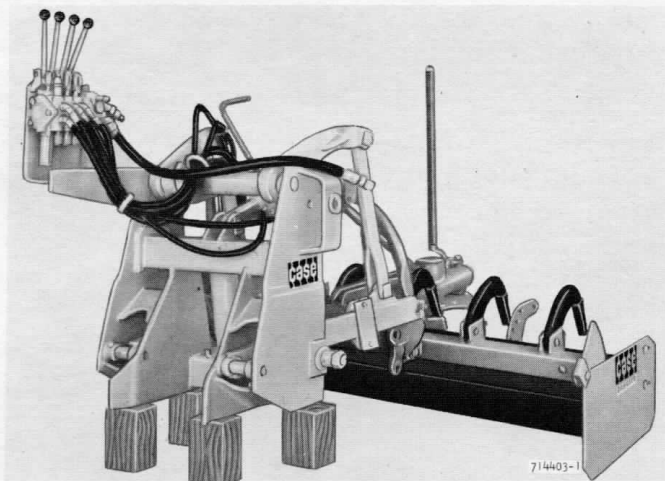

Figure 48 - Hitch Prepared For Storage
7. If the hitch is to be left standing for an extended period of time, block up the hitch as shown in Figure 48 to prevent loss of position.